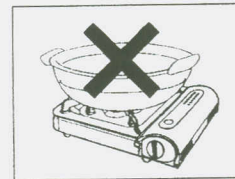

Fig.16
8. Never heat empty pans. (Fig 16)